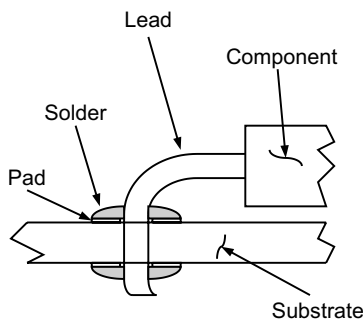

Fig. 7. A Solder Joint Exhibiting Good Wetting
1. Some circuit assemblers have migrated to *low activity fluxes*. Fluxes are available now which have such low activity levels that it is not necessary to remove them from the PCB. Such fluxes are commonly referred to as “no-wash” “leave-on” fluxes. However, low activity fluxes frequently lead to wettability problems. *Wettability* is a measure of how well the solder joins the device lead or terminal to the PC board (Figure 7). Two important factors in a low-activity flux process are the cleanliness of the device leads or terminals, and the plating thickness of the leads or terminals. If the terminals of a device are not sufficiently clean, *de-wetting* can occur. If the plating thickness of the device terminals is insufficient, *non-wetting* can occur.